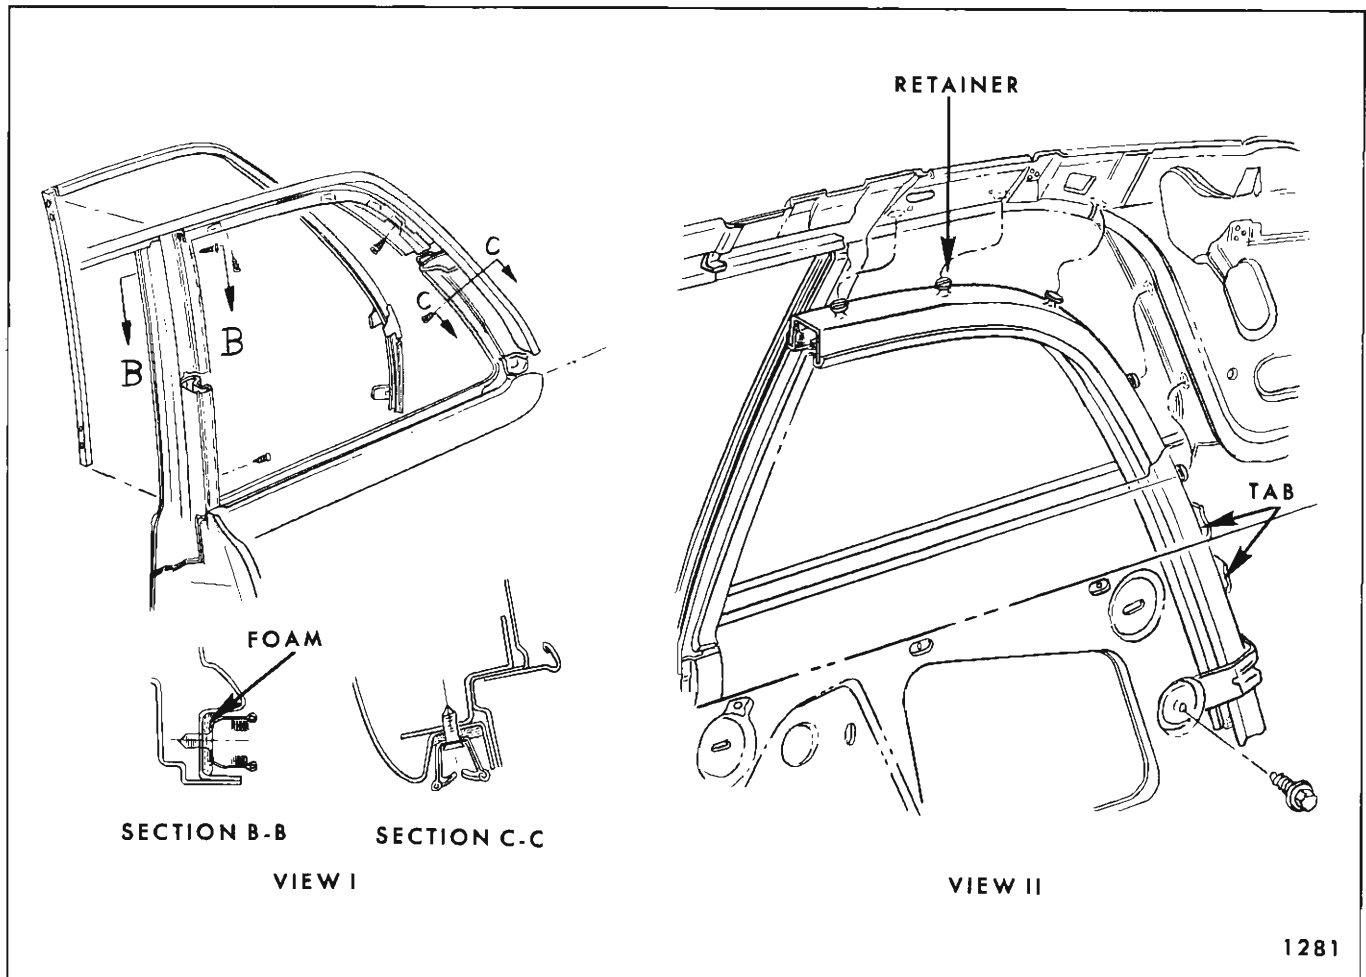

Fig. 2E26—Rear Quarter Window Glass Run Channels
- a. Operate window to "full up" position and loosen window regulator attaching screws (Fig. 2E24 for "11" styles, Fig. 2E25 for "27" styles).
a. Loosen rear glass run channel attaching screw (Fig. 2E24 for "11" styles, Fig. 2E25 for "27" styles).